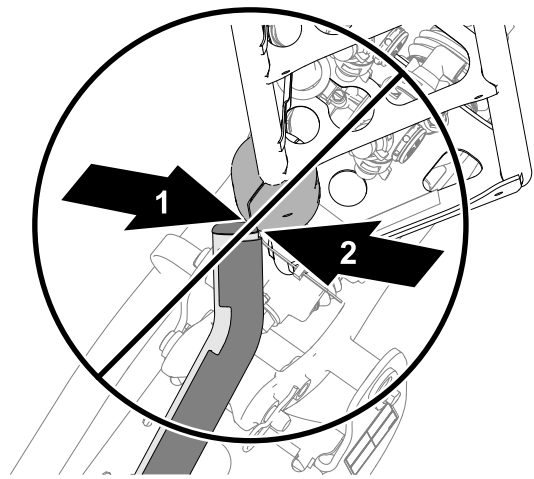
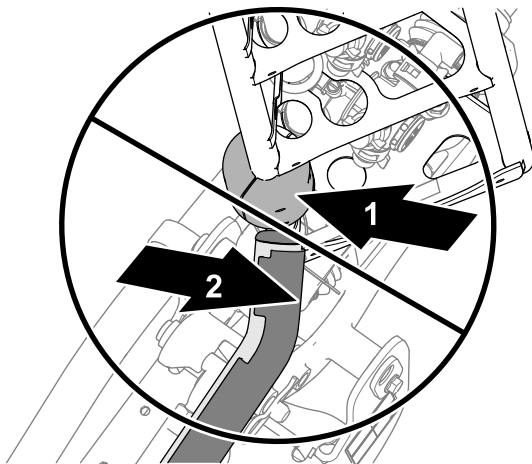
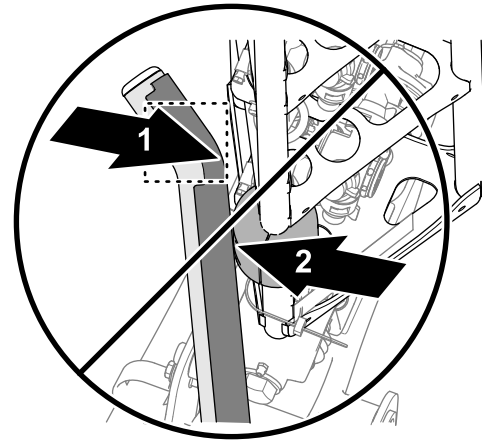

Figure 7
Figure 6
Figure 8
5. If either upper cradle tube is misaligned with the slide block as shown in Figure 6, Figure 7, or Figure 8, adjust the cradle position; refer to Aligning the Cradles to the Outer Booms (page 77).